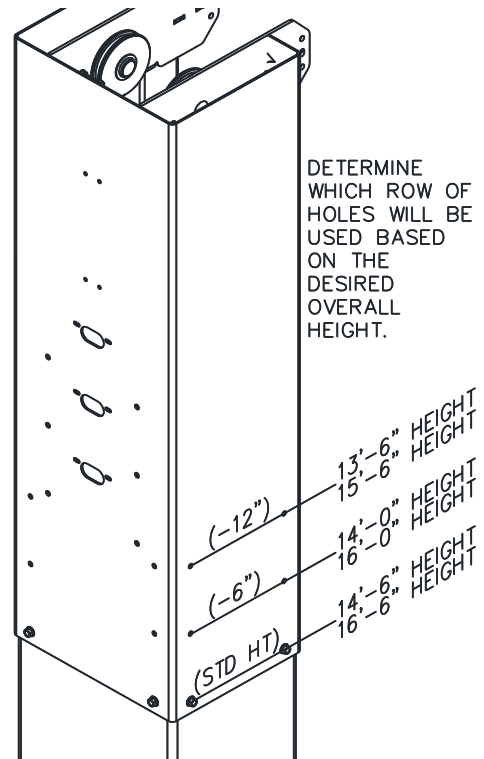

Fig. 3 – Column Extension Assembly
- 10) Assemble column extension to column by lining up the correct set of holes and using the 1/2"-13 x 1" lg. hex flange head bolts, **Fig. 3**. **Note: the column extensions are adjustable by 6" and 12"**.